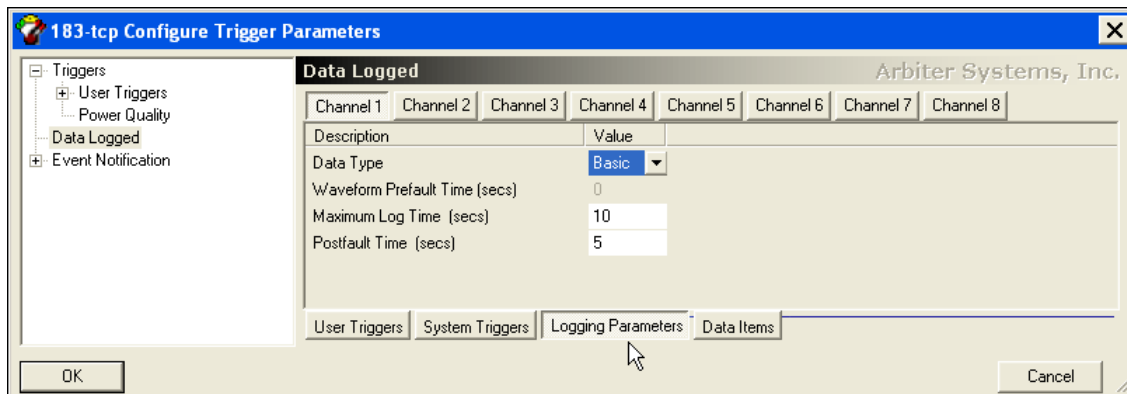

Figure 8.5: Configure Logging Parameters Screen
4. Click the Logging Parameters button to access the logging parameters for each channel. Select the Data Type – None, Basic, Harmonic, Harmonic Summary, Phasor and Waveform – according to requirement. See Figure 8.5